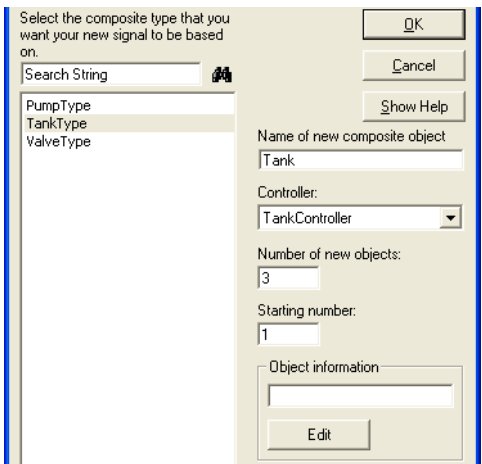

Figure 20. Add Process Objects
17. Enter the number of new process objects to create, see also Figure 20.